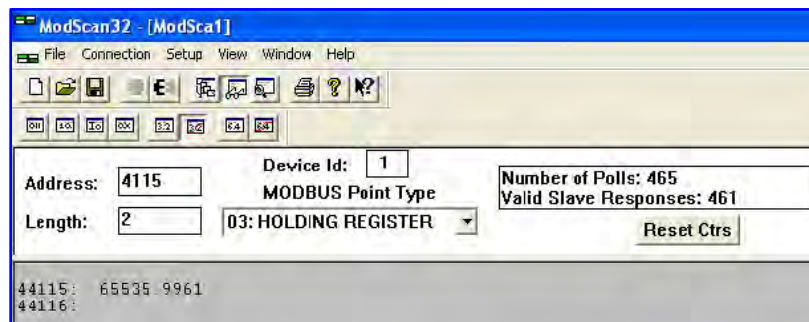

Figure 54 – ModScan32 Connected to Modbus Device with Register 4115 on Display (Ceiling Value)
- See Figure 54 below for a “Ceiling value” number example.